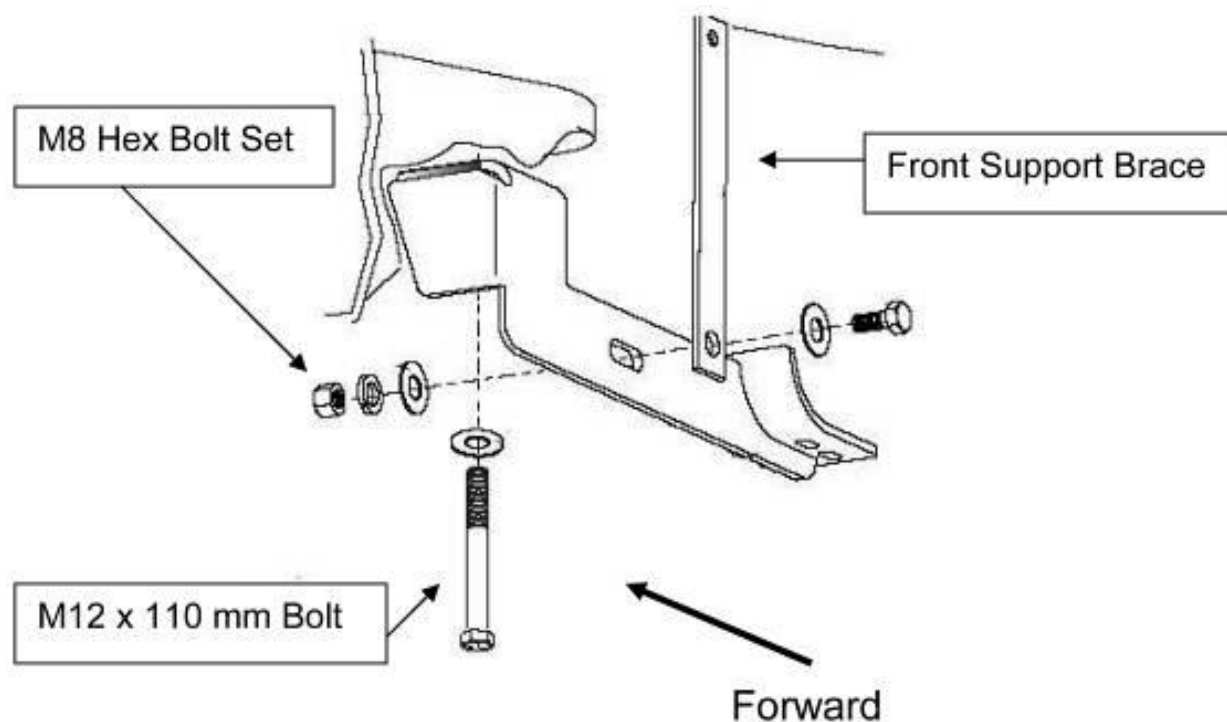

Figure 1. Passenger Side – Front Bracket
1. Remove existing body mount bolts as shown (see Fig. 1, 3, 4).
2. Install front and rear passenger brackets using M12-1.75 x 110mm Hex Bolt (see Fig 1, 4). Install center passenger bracket using spacer with M12-1.75 x 130 mm hex bolt.